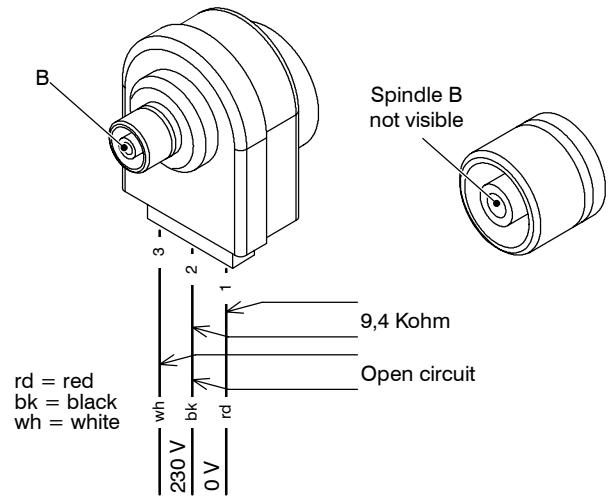
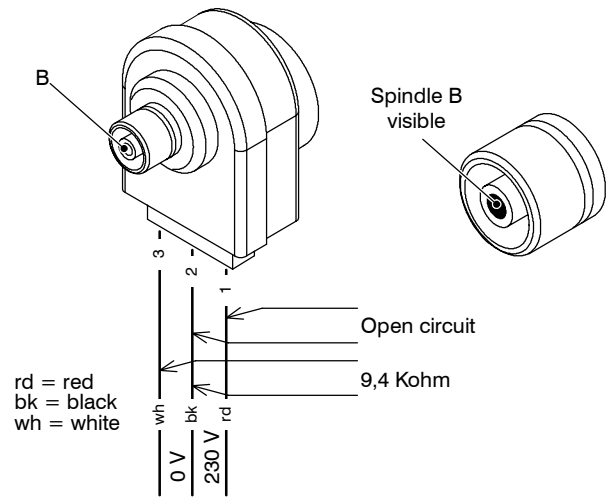

Fig. 8.2 – D.h.w. mode
Fig. 8.3 – C.h. mode
Fig. 8.2 indicates the relationship between the electric command coming from the electronic control p.c.b. and the position of the actuator B (brass spindle) when the boiler operates in **d.h.w. mode**.
Fig. 8.3 indicates the relationship between the electric command coming from the electronic control p.c.b. and the position of the actuator B (brass spindle) when the boiler operates in **c.h. mode**.
- Reassemble the actuator carrying out the removal operations in the reverse order. When reassembling the actuator, refer to Fig. 8.2 – Fig. 8.3 or to the wiring diagram in section 8.2 for the correct wiring connection.